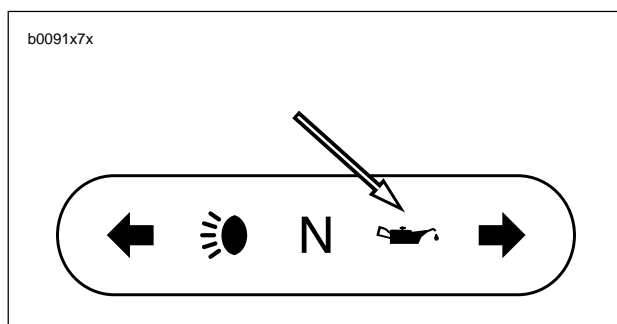

Figure 1-8. Oil Pressure Signal Light on Dash Panel
12. See Figure 1-8. Start engine. Verify that oil pressure signal light on dash panel turns off when engine speed is 1000 RPM or above.